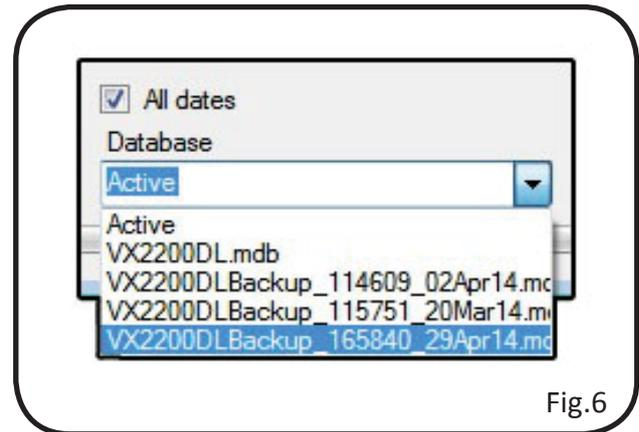

Fig.6
- **Database** - click on the drop down menu to select the database file to view or save (*the active database is always the default database initially shown in the drop down menu, however all other databases that have been backed up will also be shown further down the drop down menu. If the 'automatically backup and delete records' box was ticked on the setup window, refer to page 12, then it will add the database filename onto the list in the drop down menu. See Fig.6*).